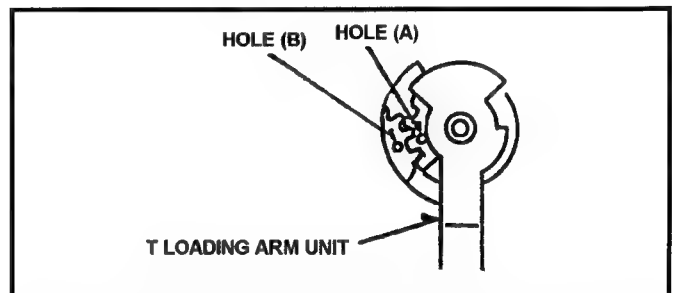

Fig.6-16-1 Phase Adjustment of T1 Loading Arm Unit
1. When install the T1 Loading Arm Unit, then the hole (A) should be matched hole (B) as shown in Figure 6-16-1.
3. Post Height Pre-adjustment (Refer to item 5-3) and Linearity adjustment (Refer to item 5-12 [Tape Pass Adjustment Procedure]) should be performed.